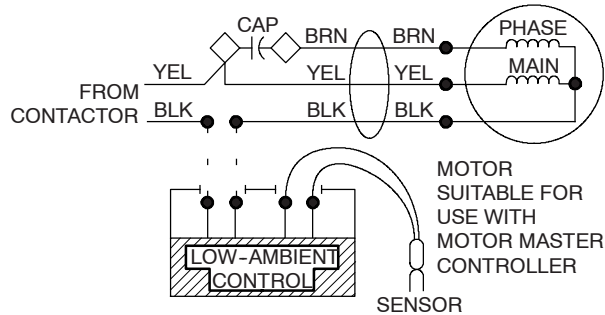

Fig. 12- Power Wiring for 208-v, 230-v, and 460-v Condensing Units
MotorMaster® must be wired in series with fan motor. (See Fig. 12.) Power wiring must comply with all local codes and NEC requirements.
4. Bypass MotorMaster® by connecting black wire from unit contactor directly to black fan motor lead. (See Fig. 12 and unit wiring label.)